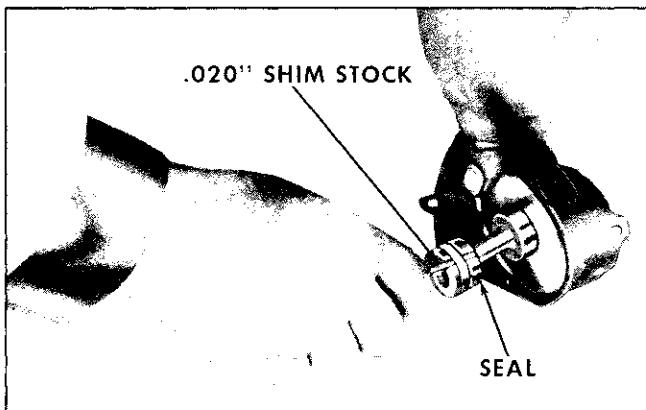

Fig. 4-25 Installing Piston Seal
4. Install new seals, using a piece of .020" shim stock (Fig. 4-25).